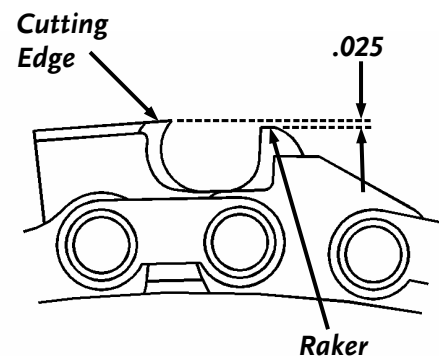

Figure 12
6. Hold the flat file horizontal and file down the rakers to the suggested dimension (**Figure 12**).